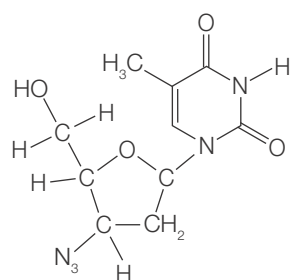

Figure 25.33 Structure of azidothymidine (AZT) or Zidovudine, used in the clinical treatment of AIDS
- Inhibiting the replication of the virus: the drug may mimic nucleotides, the monomers of DNA or RNA, so that they are incorporated into the enzyme-controlled synthesis of DNA or RNA, which is then terminated (Figure 25.33). These anti-viral agents are known as nucleoside analogues.